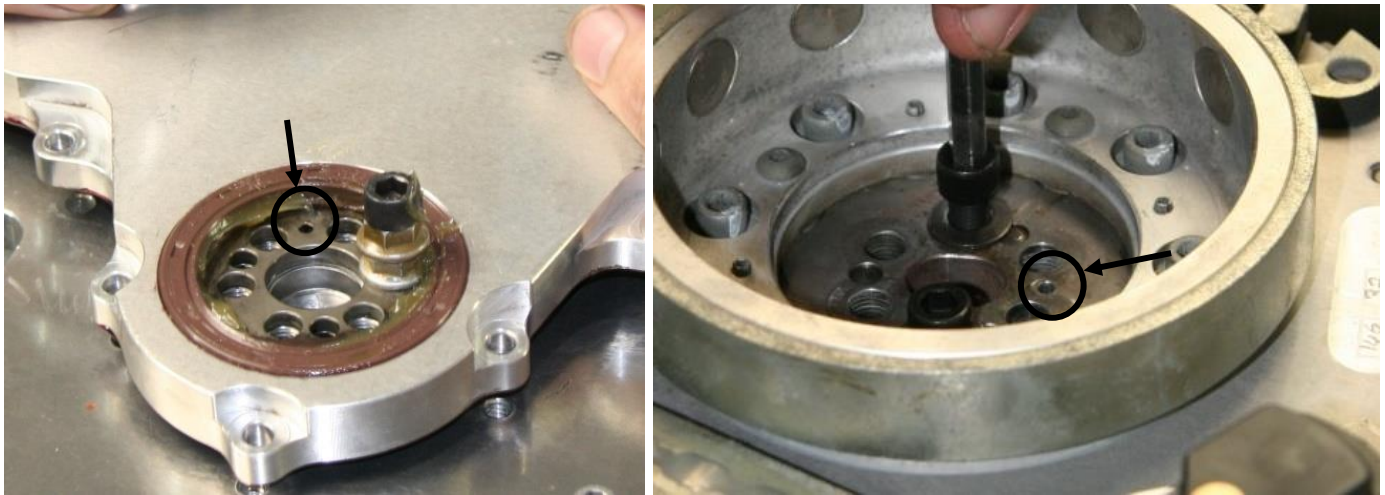

Figure 180 – Flywheel & Crank Timing Marks
- While the engine is still set at 25° before TDC (or as required to set the distributor timing) the flywheel will fit onto the engine with its magnets aligned at the ignition pole positions. For the 2200 engine this means the magnets are pointing to the left and right of the engine. For the 3300 the magnets are at the 1 o'clock, 5 o'clock and 9 o'clock positions. There is also a timing mark (a hole) on the flywheel which aligns to a corresponding hole in the crankshaft gear. Figure 180 refers.